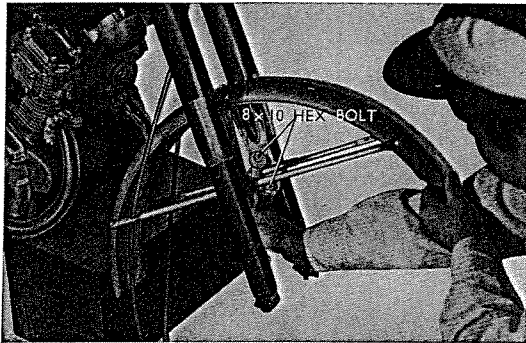

Fig. 4.14 Removing front fender
5. Loosen four 8×10 hex bolts and remove the front fender. (Refer to Fig. 4.14)